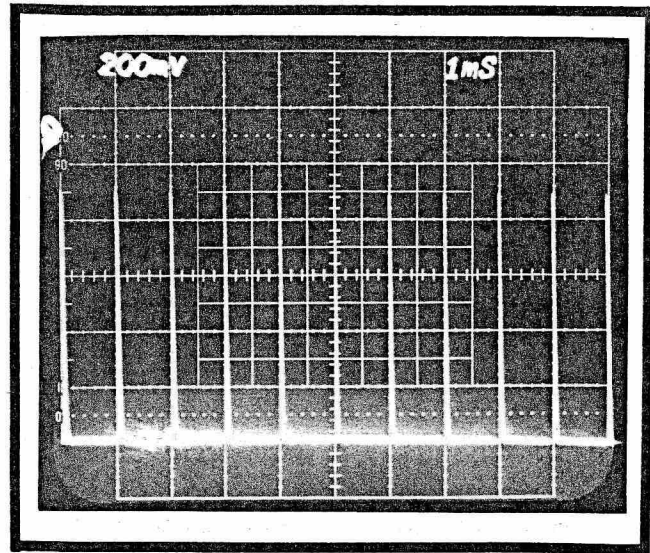
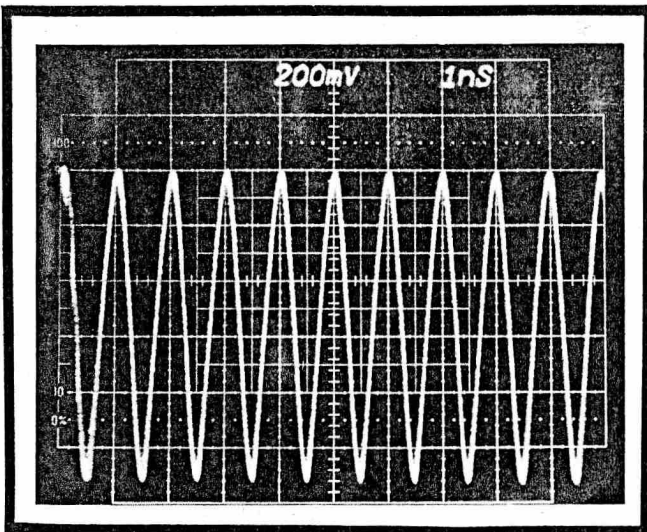
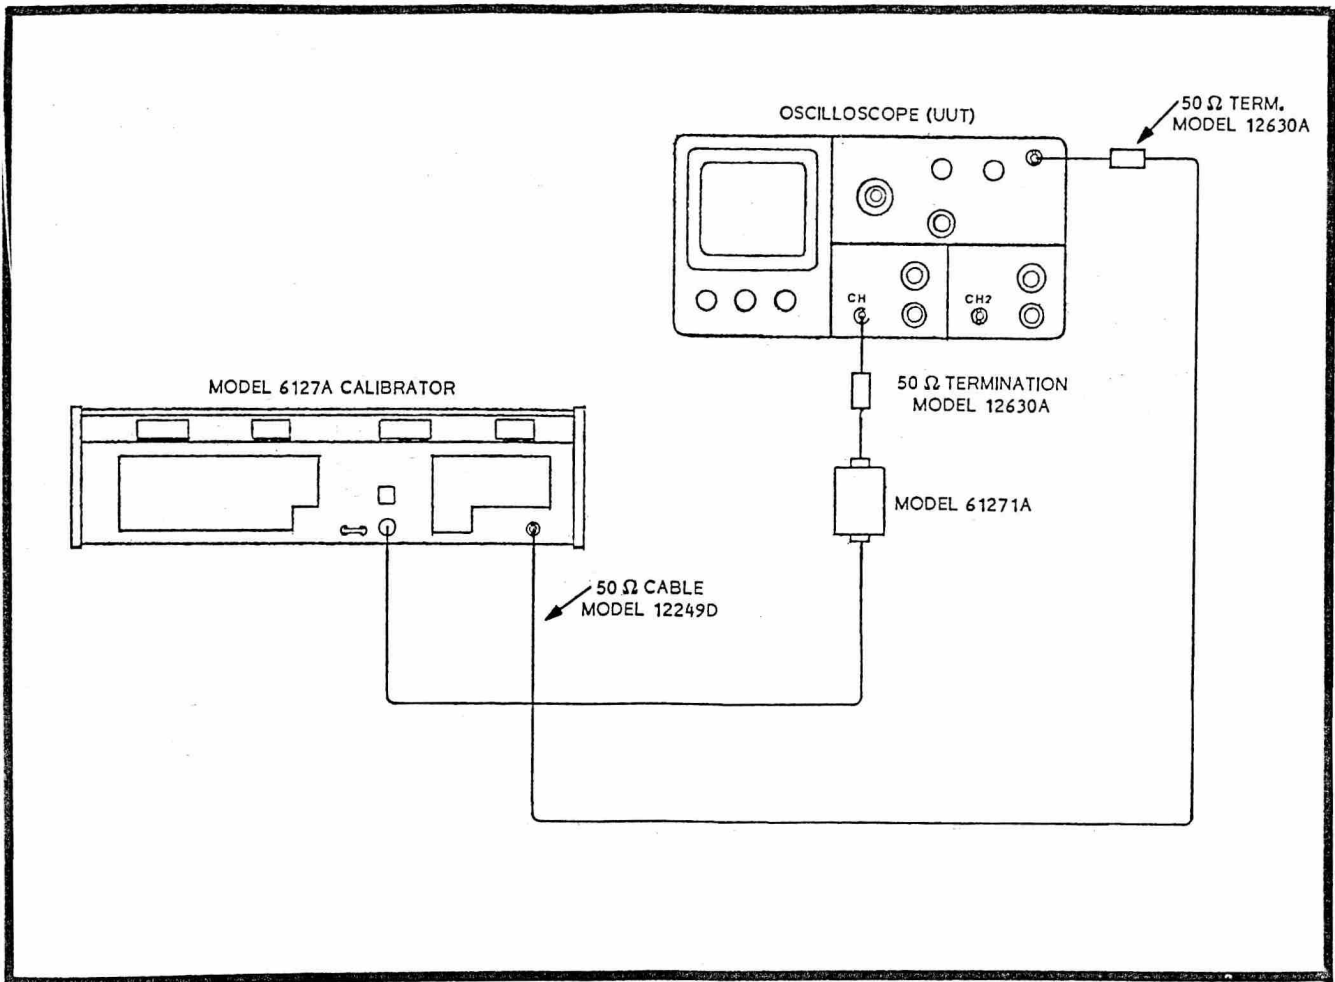

Figure 3-16. Time/Div Display, 1 ms Markers
Figure 3-17. Time/Div Display, 1 ns Markers
Figure 3-19. Time/Div Mode, Test Set-Up
a. Select the TIME/DIV OUTPUT mode to provide time markers, having well defined peaks (figure 3-16) for periods slower than 10 nanoseconds and sinewaves for 1 and 0.5 nano-seconds (figure 3-17 and 3-18). All timing signals are locked to the 6127A precision crystal controlled clock. Attach the Model 6127A Accessory Head to connect the Calibrator signal to the oscilloscope (UUT). Refer to figure 3-19 for test equipment set-up.
g. Increment the % DEVIATION by pressing the Δ key pad (this will cause the distance between the time markers to increase) or decrement by pressing the ∇ key pad (this will cause the distance to decrease). By incrementing or decrementing, adjust the time markers so that they are coincident with the vertical graticule lines. (See figure 3-16.) The second and tenth time marks should exactly align with the vertical graticule lines. Read the % DEVIATION displayed on the Model 6127A. It is the time base range calibration error of the UUT.